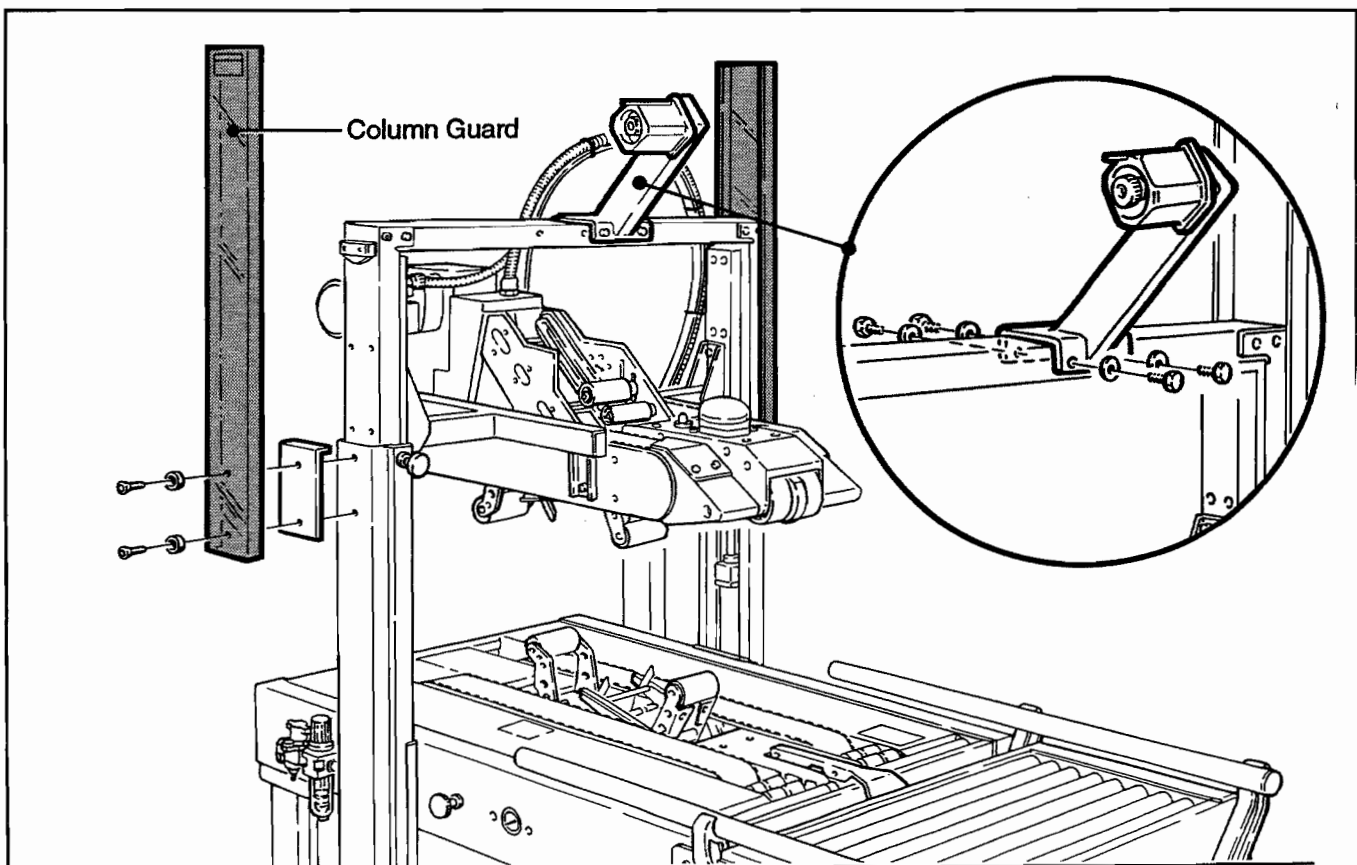

Figure 2-1 – 700rks Frame Set-Up
4. Install upper tape drum bracket on the inner column assembly crossbar as shown in Figure 2-1.
5. The plastic column guards have been shipped loose with the machine. Remove the protective plastic film from the guards and install the guards on the outer columns as shown in Figure 2-1 using the screws, washers and bumper stops plates installed in the outer columns.